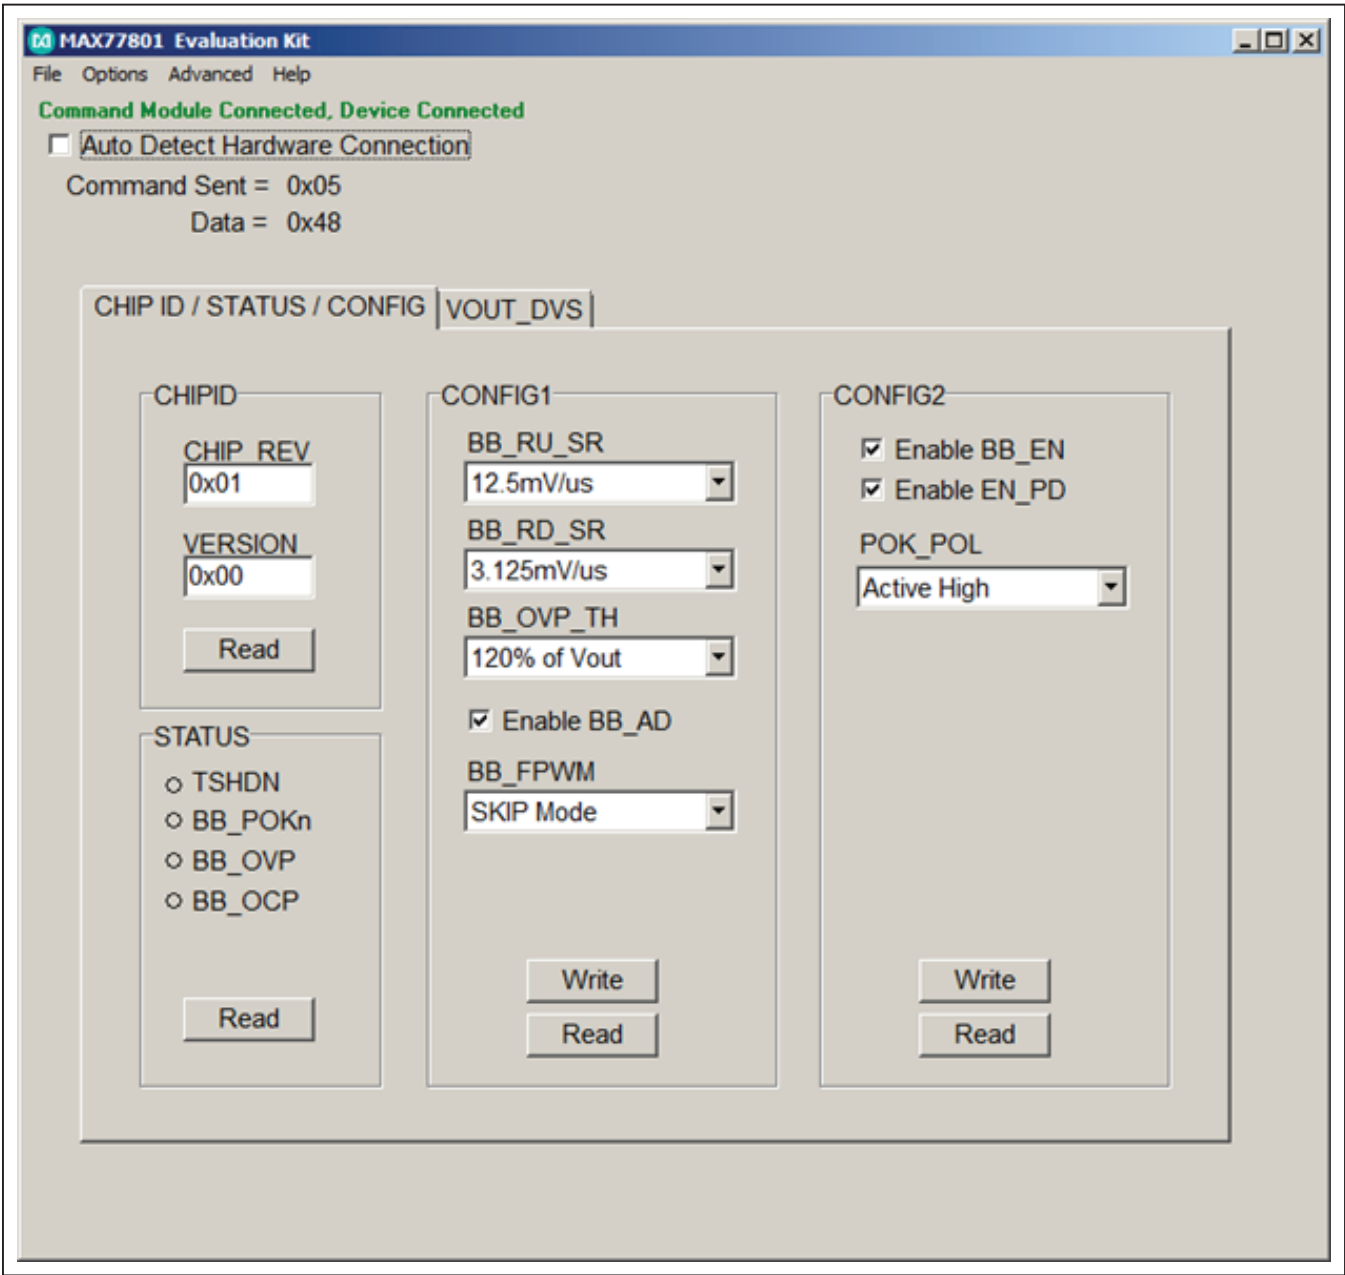

Figure 2. MAX77801 Evaluation Kit Software Window (CHIPID/STATUS/CONFIG Tab)
- 11) Start the EV kit software by opening its icon in the **Start | Programs** menu. The EV kit software main window appears, as shown in Figure 2.
The GUI shown in Figure 2 is the main window of the MAX77801 EV kit software that provides a convenient means to control the MAX77801 IC. Use the mouse or press the Tab key to navigate through the GUI controls. The EV kit software main window consists of two tabs, **CHIPID/STATUS/CONFIG** (Figure 2) and VOUT_DVS